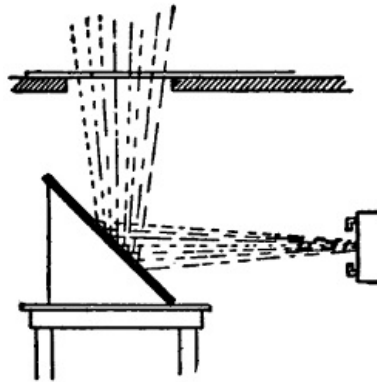

FIGURE 197.
*Fire Dance.*—This effect is generally illuminated from below the stage, the light being thrown upward through glass. Special arc lamps, equipped with powerful reflectors, are often used and generally several of them are required to produce the proper effect. If spot lamps are to be used they should not be turned upward but instead reflectors placed at an angle of forty-five degrees, should be provided to throw the light upward. See Figure 197. If a spot lamp is turned upward, the heat of the arc rising will be great enough to make condenser breakage a very serious problem. It is also difficult to keep a horizontal arc working properly.
*Fountains.*—The illumination for electrically lighted fountains is sometimes obtained from incandescent lamps, but no very showy effects can be produced with them. Where they are used in a manner which subjects them to moisture they must be wired in waterproof conduit and fittings and the lamps must be covered by a watertight globe. For brilliant effects arc-lamp illumination is necessary and the arc must of course be below the water. As arc lamps when tilted upward break condensers very rapidly, the light is usually reflected upward by means of mirrors set as indicated in Figure 197.